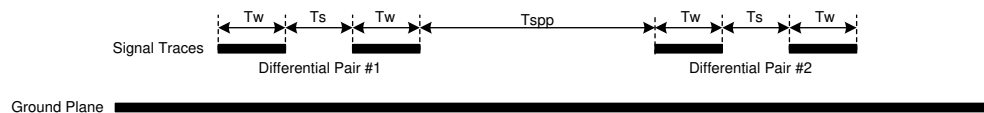

図 9-15. DMD Differential Layout Recommendations
DLPC6540 I/O timing parameters as well as DMD I/O timing parameters can be found in their corresponding data sheets. Similarly, PCB routing mismatch can be budgeted and met through controlled PCB routing. PCB design recommendations are provided in 表 9-7, 図 9-15, and the paragraph below as a starting point for the customer.
- (1) Recommendations to achieve the desired nominal differential impedance as specified by R_{DIFF} in セクション 6.7.
- (2) These parameters show recommendations based on the micro-strip design shown in 図 9-15. This design minimizes signal loss to support longer trace lengths at the expense of electromagnetic interference (EMI). The designer has the option to use of a stripline design for shorter trace lengths and to target minimizing EMI at the expense of signal loss.
- (3) A reduced inter-lane spacing can be used to escape the Controller ball field, however, widen this spacing to at least the stated minimum after escape.